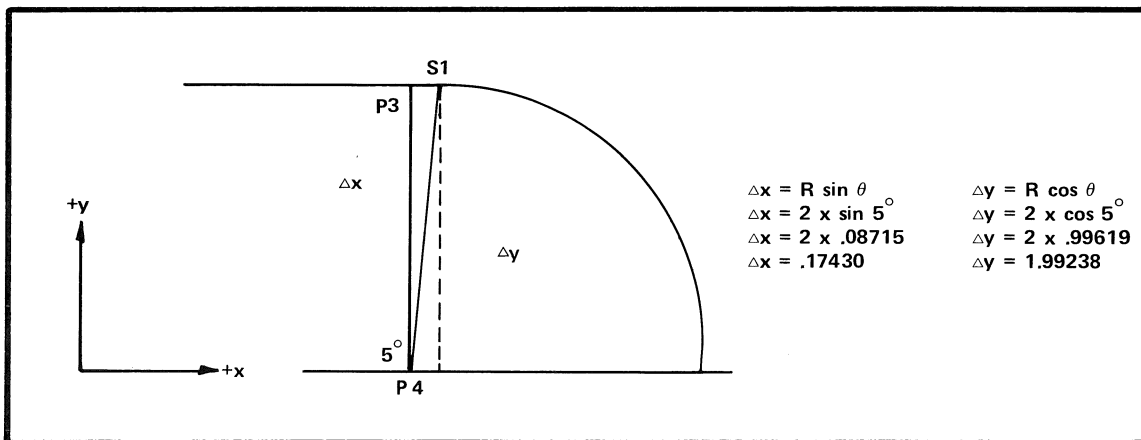

Fig. 3-3. Calculating end-point coordinates when using the chord method to cut circles.
Step 6 —To find the coordinate value of step S_1 shown in Fig. 3-3.